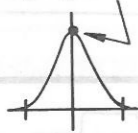

Fig. 8
1. Feed in a weak signal to TP2 from the genescope. Adjust T101 for maximum gain and the waveform indicated in Fig. 8. If the center of the waveform cannot be lined up on the marker, adjust the right/left balance.